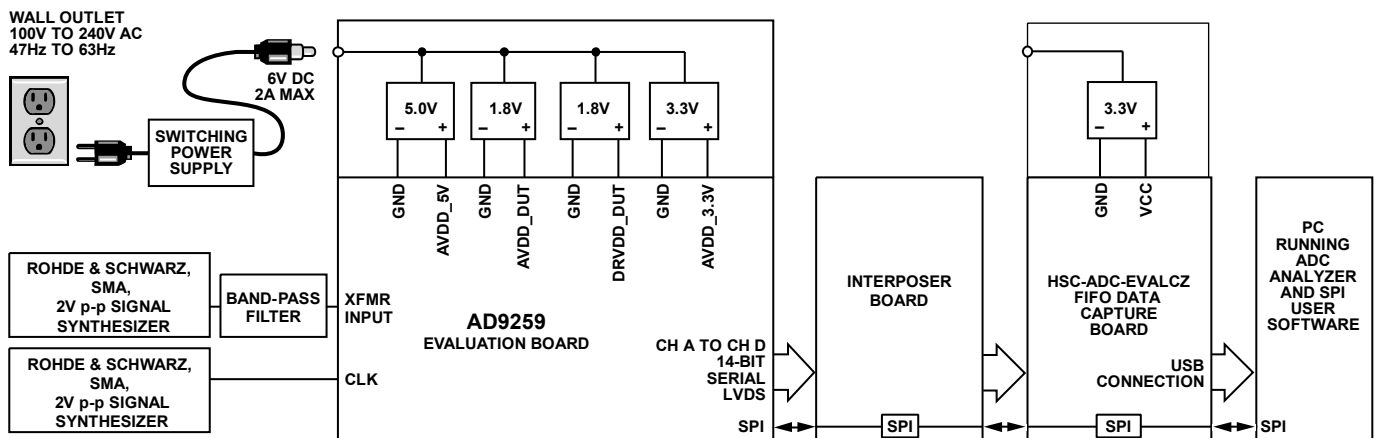
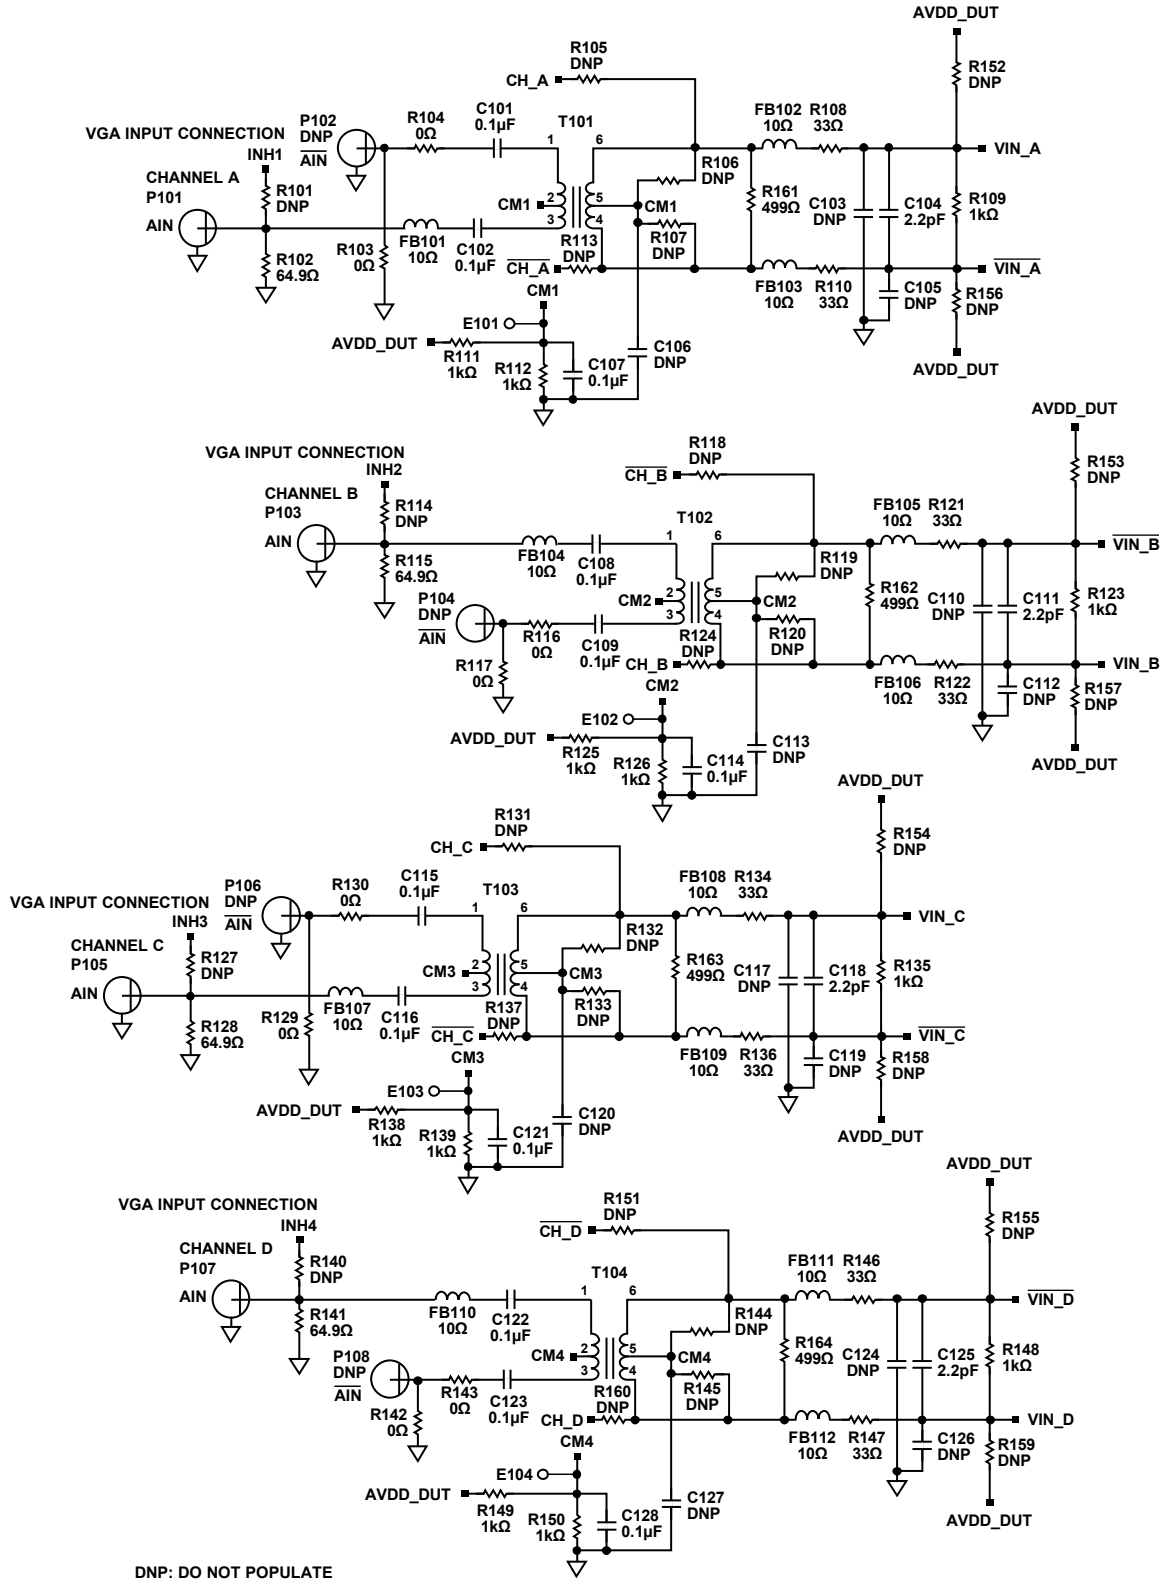
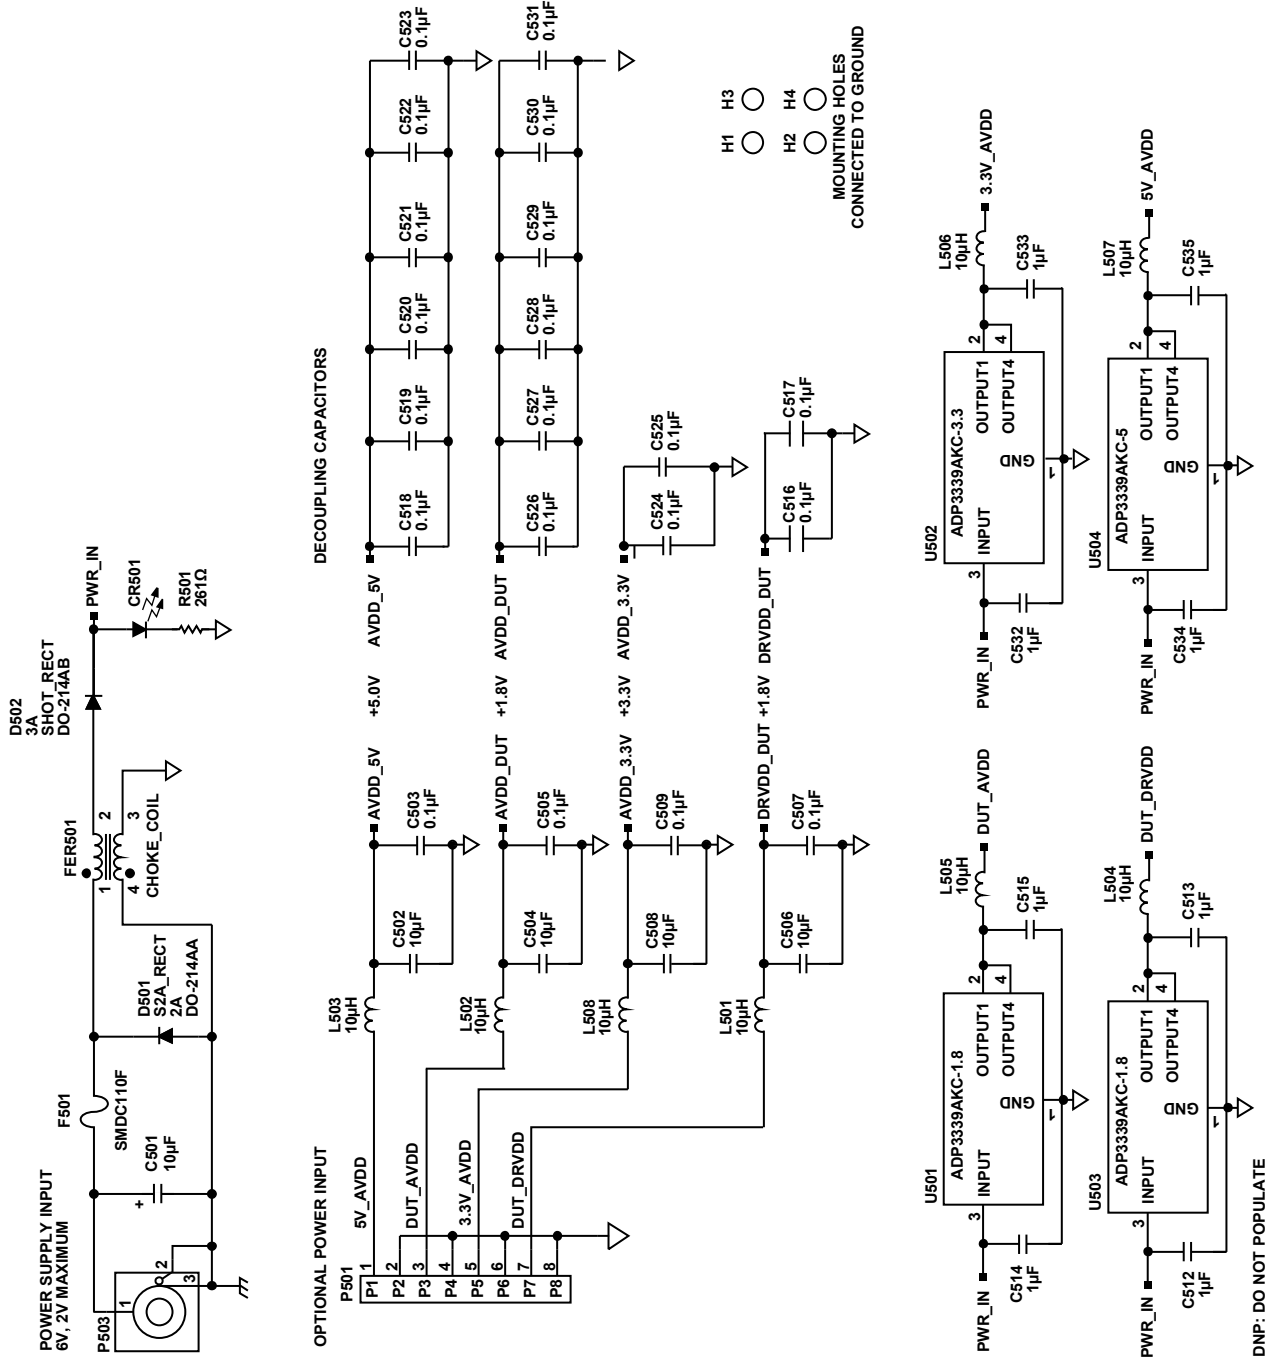

Figure 60. Evaluation Board Connection
Figure 62. Evaluation Board Schematic, DUT Analog Inputs
Figure 66. Evaluation Board Schematic, Power Supply Inputs
The AD9259 evaluation board provides all of the support circuitry required to operate the ADC in its various modes and configurations. The converter can be driven differentially using a transformer (default) or a AD8332 driver. The ADC can also be driven in a single-ended fashion. Separate power pins are provided to isolate the DUT from the drive circuitry of the AD8332. Each input configuration can be selected by changing the connection of various jumpers (see Figure 62 to Figure 66). Figure 60 shows the typical bench characterization setup used to evaluate the ac performance of the AD9259. It is critical that the signal sources used for the analog input and clock have very low phase noise (<1 ps rms jitter) to realize the optimum performance of the converter. Proper filtering of the analog input signal to remove harmonics and lower the integrated or broadband noise at the input is also necessary to achieve the specified noise performance.
See Figure 62 to Figure 70 for the complete schematics and layout diagrams demonstrating the routing and grounding techniques that should be applied at the system level.
- **D + x, D - x:** If an alternative data capture method to the setup shown in Figure 60 is used, optional receiver terminations, R206 to R211, can be installed next to the high speed backplane connector.